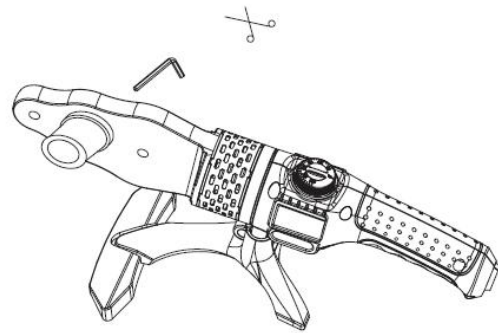

fig.2
- 3)Fix the heating tool on the machine with the allen wrench.(fig.2)